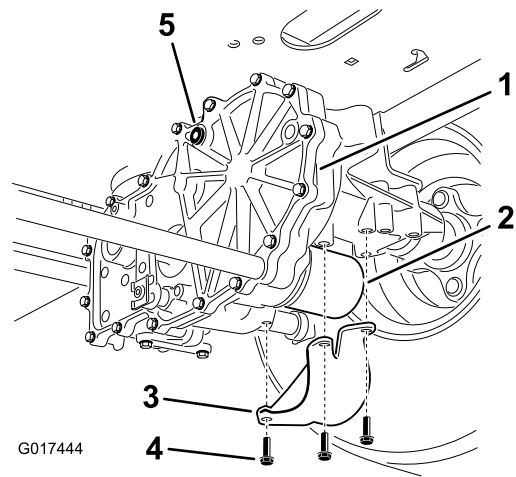

Figure 72
2. Locate the filter and guards on each transaxle-drive system (Figure 72).
3. Remove the 3 screws securing the filter guard and guard (Figure 72).